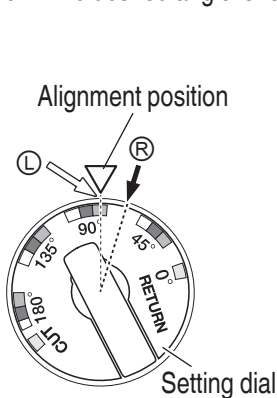
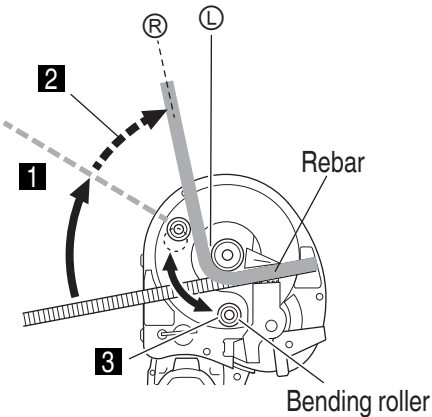

Fig. 42
Fig. 43
- (1) Set the setting dial to a larger angle **Ⓛ** than the one desired **Ⓡ** (**Fig. 42**)
- (2) Set the rebar and release the switch lock (See "1. Switch operation" on page 54)
- (3) Pull the switch and release at the desired angle **Ⓡ** (**Fig. 43 1**)
If the angle requires more bending, press the Manual Mode switch to return to normal rotation and bend a little more.) (**Fig. 43 2**) (**Fig. 45**)
- (5) When the rebar is bent to the desired angle, keep pulling the switch in reverse-rotation mode, until the roller is returned to its original position. (**Fig. 43 3**)